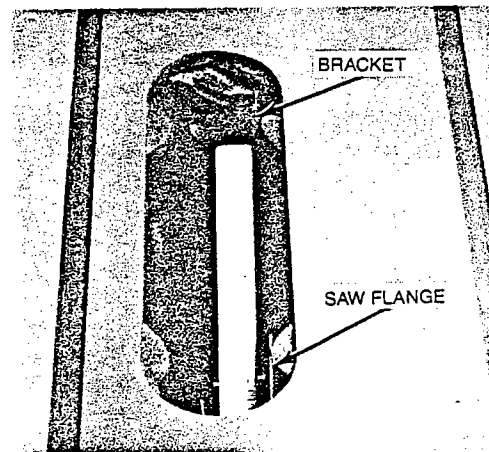

FIGURE 4
2. With a straight edge, align bracket top and bottom to saw flange (Figure 4).